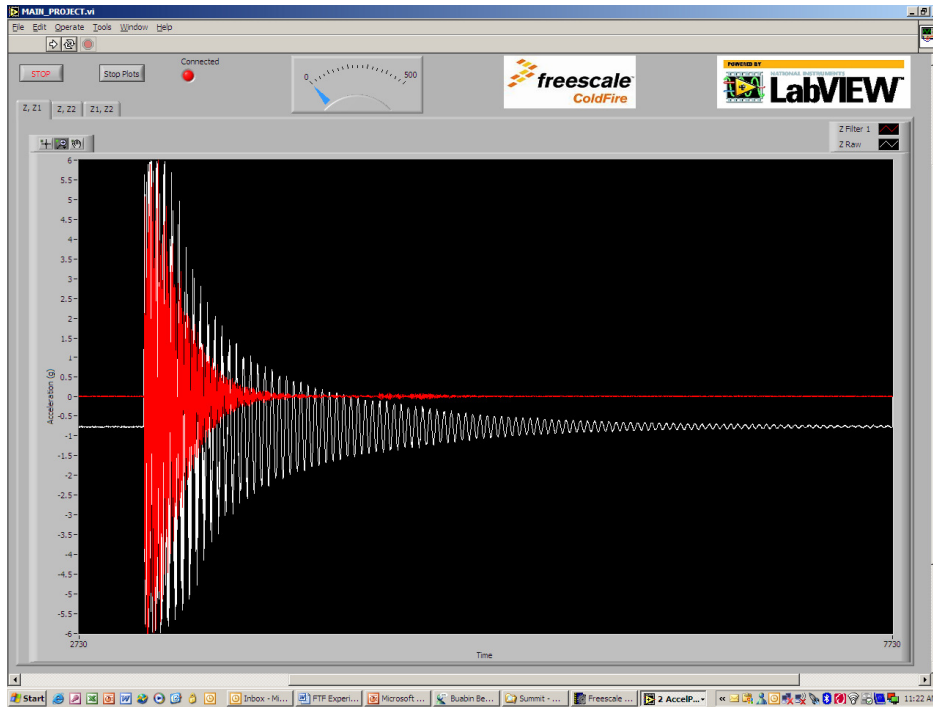

Figure 4a: Measured and filtered signal from cascaded filters
- j. The tab labeled “Z, Z1” displays the raw signal and the signal at the output of the cascaded filters (Figure 4a).
- o. The effect of time delay on the filtered signals is evident in Figures 4a, 4b and 4c.